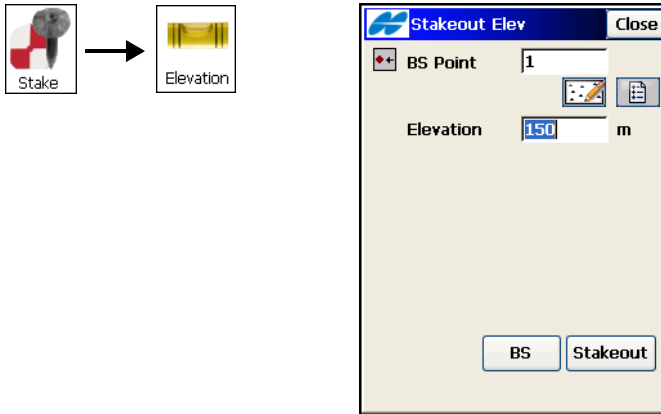

Figure 9-56. DL Stakeout Elevation
1. To stake out elevations, tap **Stake ► Elevation**. The *Stakeout Elev* screen displays (Figure 9-56 on page 9-43).